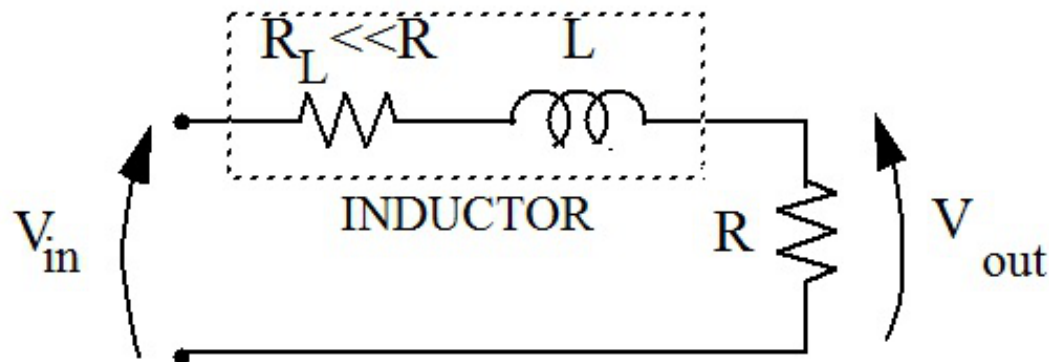
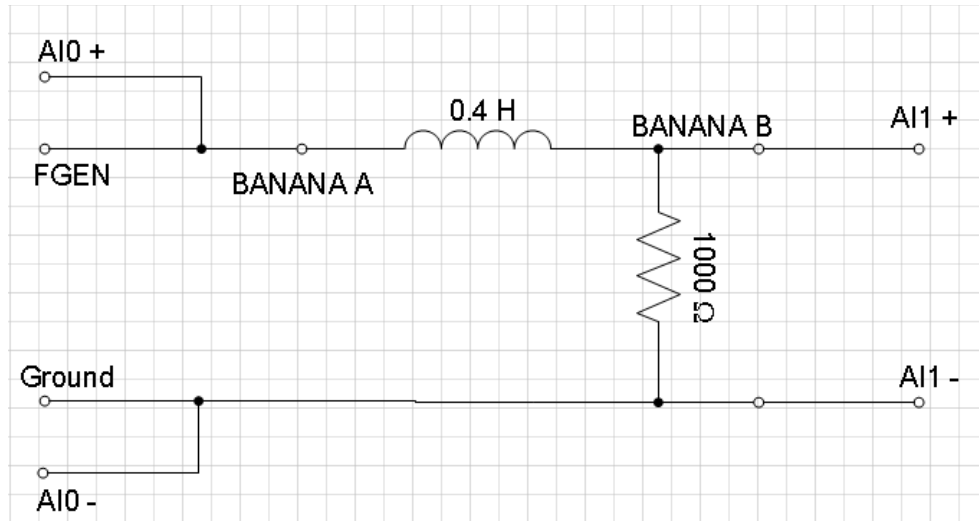
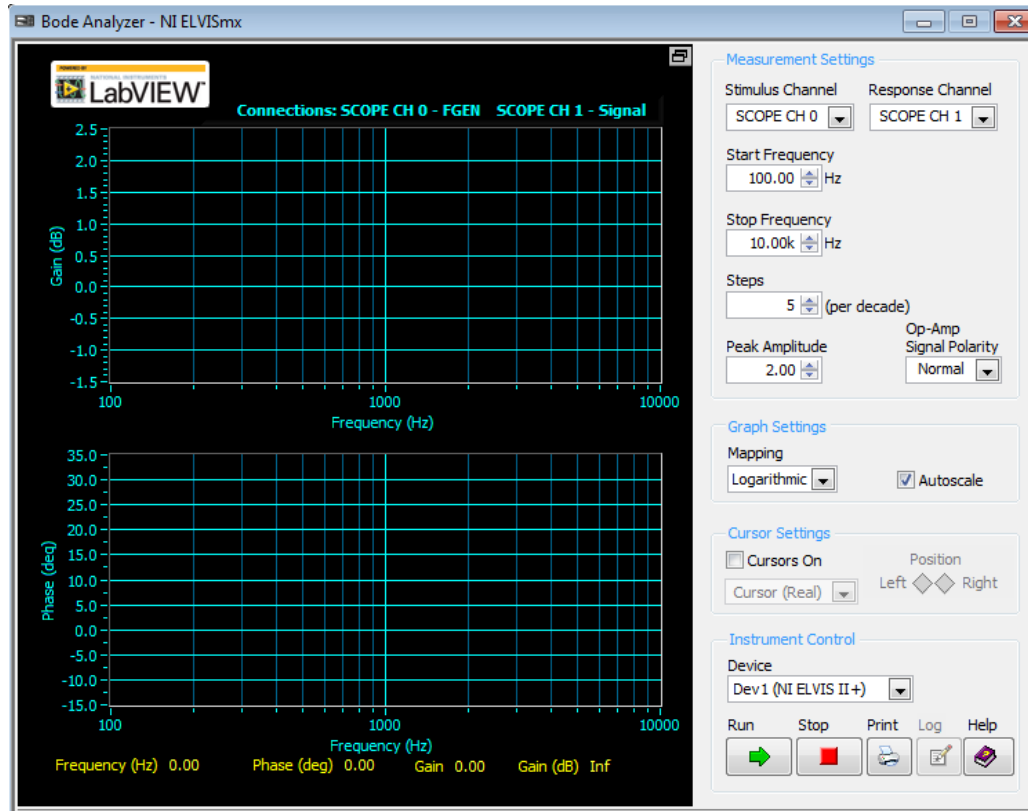

Figure 1: Low-pass Filter
Figure 5: R-L Filter Connectivity for NI ELVIS Workstation
Figure 7: Uninitialized NI ELVIS Bode Analyzer Front Panel
The first circuit, shown in Figure 1, is a type of low pass filter. To illustrate how frequency-domain analysis is used to analyze the low pass filter, the transfer function is derived under the condition that $R_L \ll R$.
This section provides an introduction to using NI ELVIS function generator and oscilloscope for ac characterization of a simple R-L low-pass filter. We will use the simple R-L low-pass filter as shown in Figure 1 with $R = 1\text{ k}\Omega$ and $L = 0.4\text{ H}$. We will construct the circuit using NI ELVIS system as shown in Figure 5.
1. The input signal is obtained from "FGEN" and "GROUND" pins on the prototype board. Connect the 1 k Ω resistor via the breadboard. The 0.4 H inductor will need to be connected via ELVIS's banana jacks. The input and output signals will also need to be measured via NI's desktop oscilloscope so they will need to be connected to two of the AI ports (e.g., AI0 and AI1). Figure 5 shows an example of how the electrical connections could be wired.
5. Once you are operating at the filter's cutoff frequency, take a screenshot of your function generator's and oscilloscope's front panels. Include these in your report. Make sure the oscilloscope's measurements are clearly legible. Do not forget to include the circuit schematic (Figure 1) in your report with input and output voltages labeled.
2. Retain the circuit configuration in Figure 5, and, from the NI ELVIS instrument launcher, select **Bode Analyzer**. The initial Bode analyzer front panel should appear as shown in Figure 7.